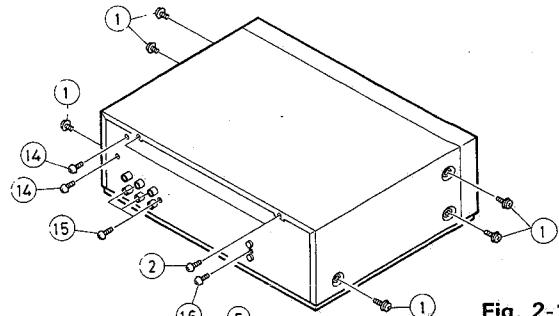

Fig. 2-1
2. Remove the two screws ⑭ retaining the volume on the back panel (see Figure 2-1).
3. Remove the three screws ⑮ retaining the pin jacks (see Figure 2-1).
4. Remove the screw ⑯ retaining the DCS jack (see Figure 2-1).